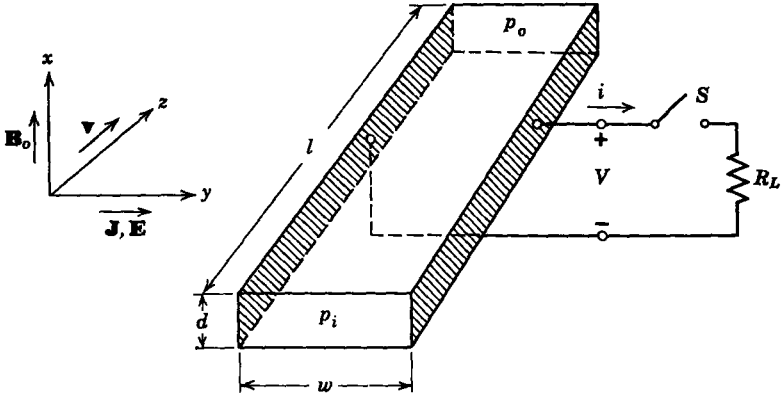

Fig. 12P.31
12.31. The system of Fig. 12P.31 represents an MHD transverse-current generator with continuous electrodes. We make the usual assumptions about incompressible, inviscid, uniform flow. The fluid has mass density ρ and conductivity σ . The pressure drop along the